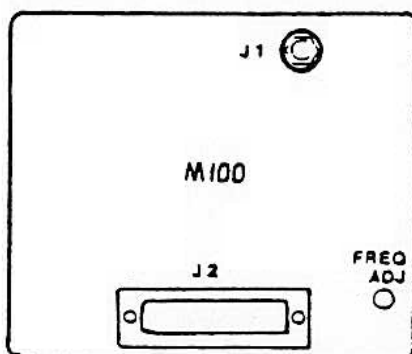

Figure 3.4 Location of M-100 Frequency Adjustment
3.3.5 Connect the DMM positive lead to J2 pin H (Figure 3.4 dotted-line connection). Monitor the DMM indication during warm-up.
3.4.1 Connect the equipment as shown in Figure 3.4.
- 3.4.7.1 Refer to Figure 3.4 to locate the M-100 frequency adjustment screw access hole.
- 3.5.1 Connect the equipment as illustrated in Figure 3.4.